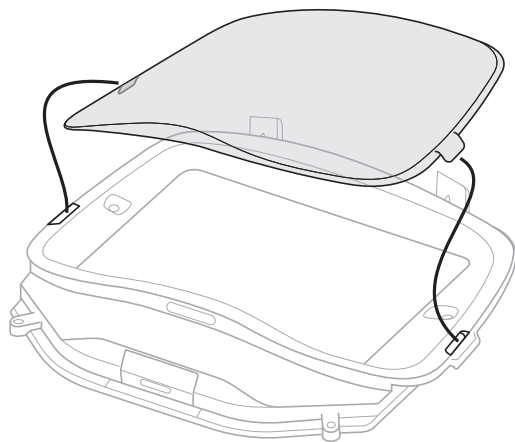

Fig. 21c
- c. Remove the outer protection plate by sliding a finger nail around the edge next to the locking tabs and easily prying it out. Remove the inner protection plate by lifting slightly and sliding it up and out of its channel grooves (Fig. 21c & 21d).